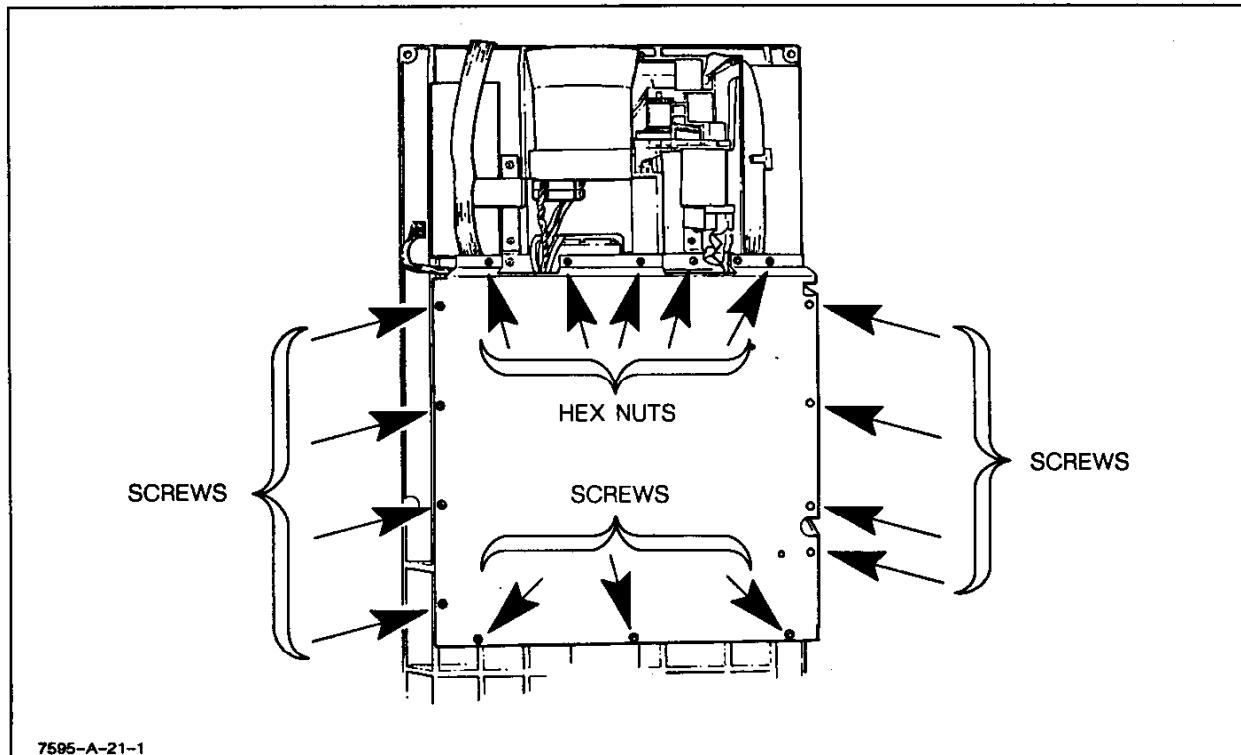
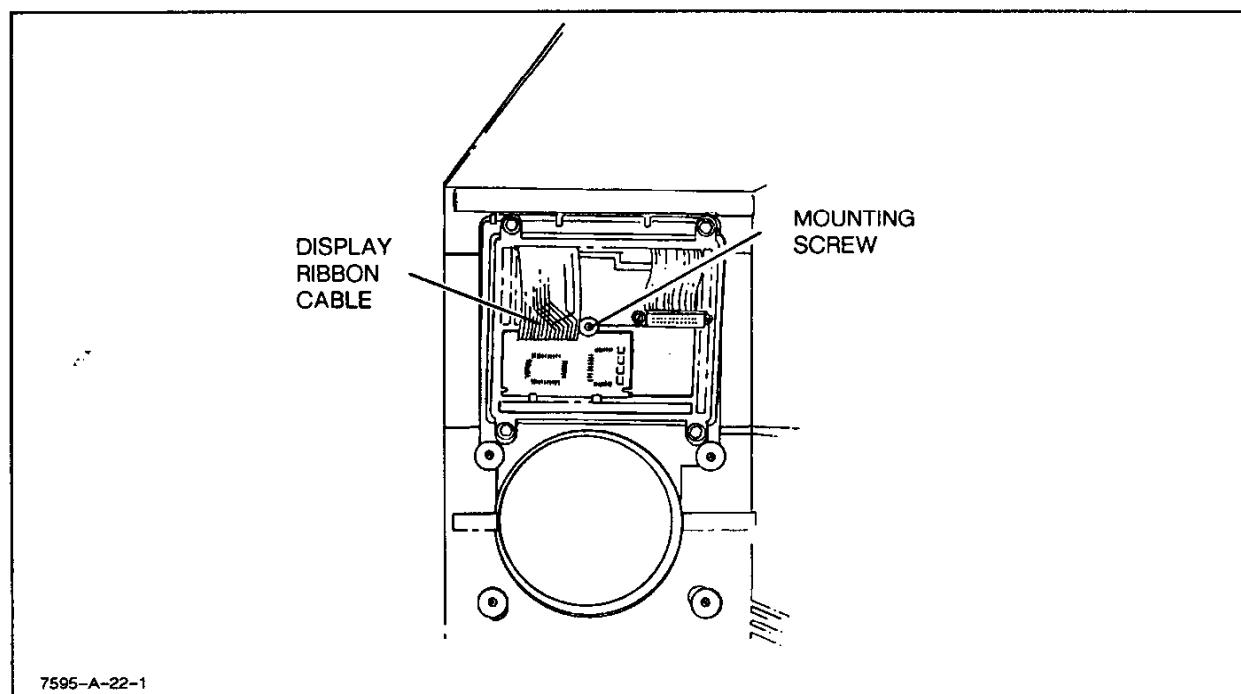

Figure 6-5. PCA Cover Removal
Figure 6-6. Front Panel Display Removal
- d. Remove the twelve hex nuts (9/32) that secure the PCA cover and remove the cover. See Figure 6-5.
- a. Turn the plotter line switch to OFF (O) and disconnect the ac power cord.
- c. Disconnect the LCD ribbon cable. See Figure 6-6.